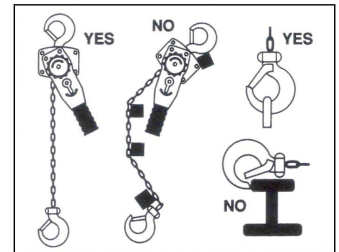

FIGURE 1
3. DO NOT install with hooks and chain out of alignment.(Fig. 1).
7. Be sure load is secured in saddle of hook. AVOID TIP LOADING(Fig.1). DO NOT OVERLOAD.
2. Attach hooks and chain linearly to avoid undue strain (PRECAUTION 3, FIG. 1).